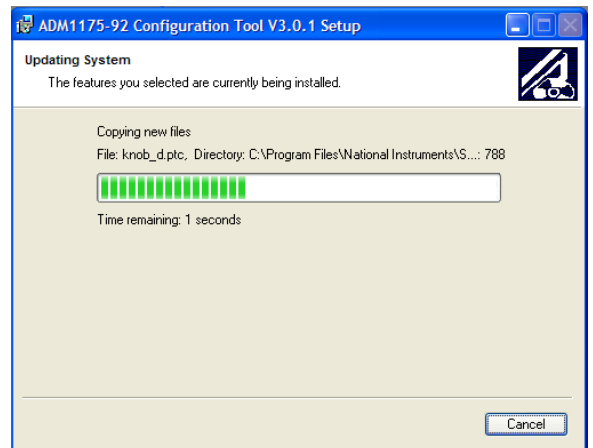

Figure 6. Installation in Progress
6. Choose to step back and reenter installation information, stop installation, or begin installation. To begin installation, click **Next**. The installation runs as shown in Figure 6.